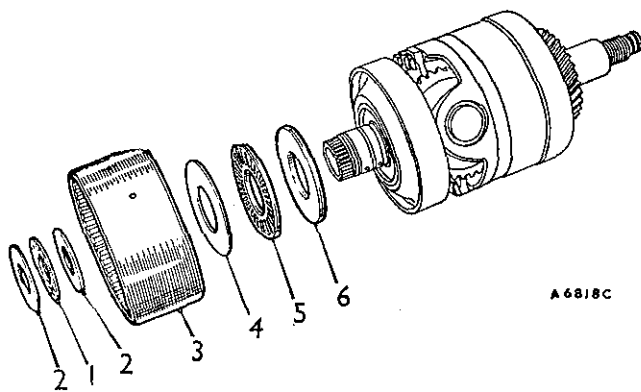

Fig. Fa.37
- (2) Remove the top and reverse clutch.
- (3) Remove the thrust race and washers (Fig. Fa.37).